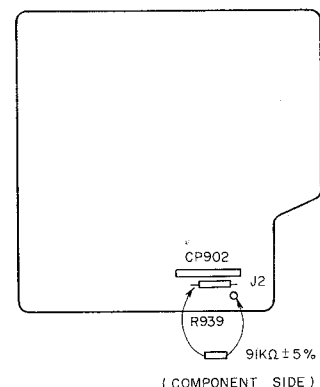

Fig. 4 Power supply board
- 1) Connect J2 with a intermediate point between R939 and terminal 2 — 3 of CP902 by a resistor $91K\Omega \pm 5\%$. — Fig. 4